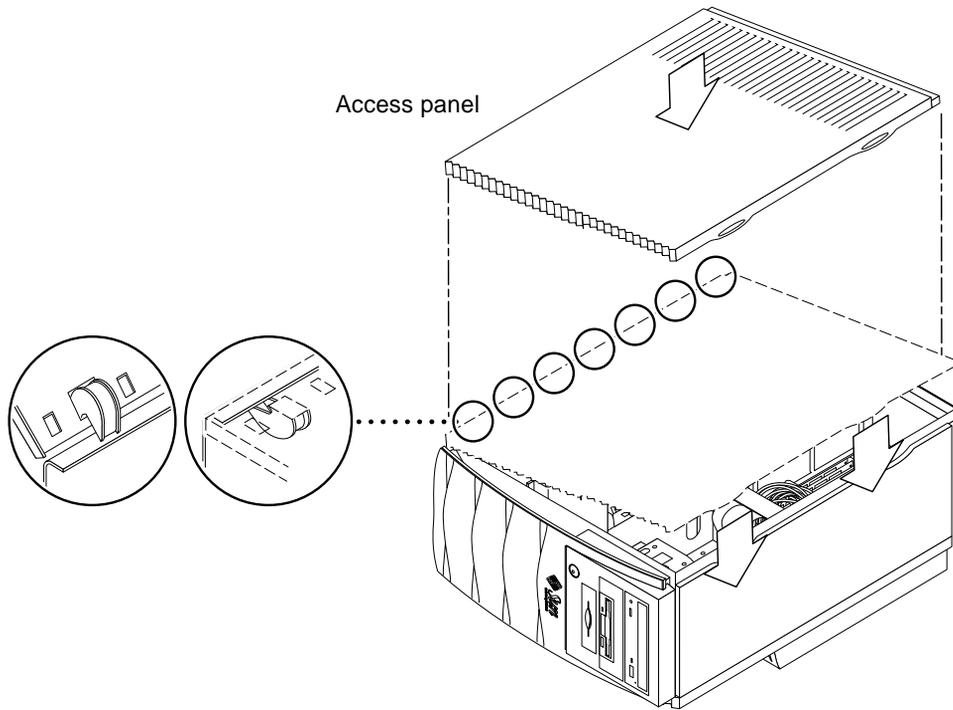

FIGURE 9-1 Replacing the Access Panel
2. **Hold the access panel, centering it over the chassis opening** (FIGURE 9-1).